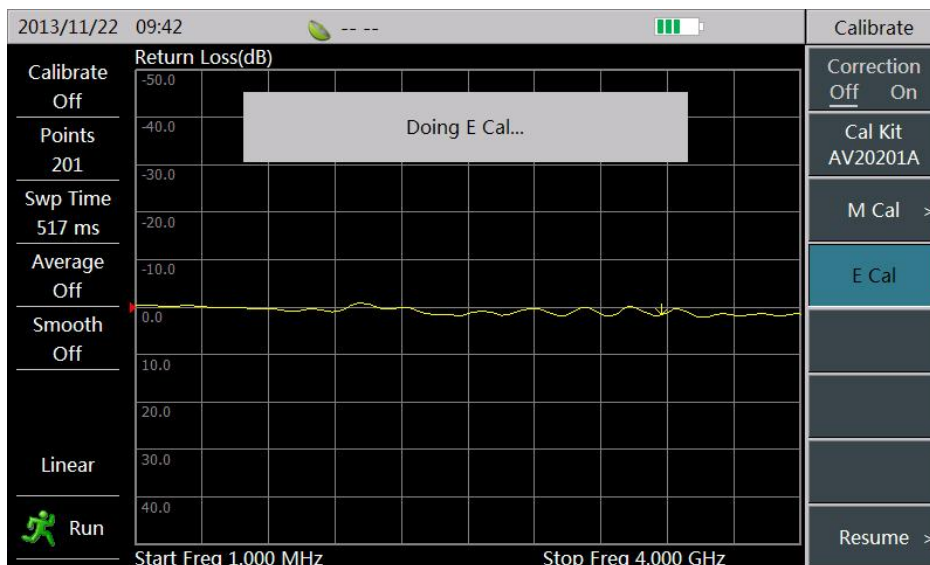

Figure 3-11 Start to Perform Embedded Calibration
- 2) After setting the frequency and sweep points, etc. other parameters, press **【Cal】** key, click [Embedded Calibration] menu item as shown in Figure 3-11, then the instrument will automatically perform a calibration procedure with a prompt saying “Doing E Cal...” displayed in the interface.